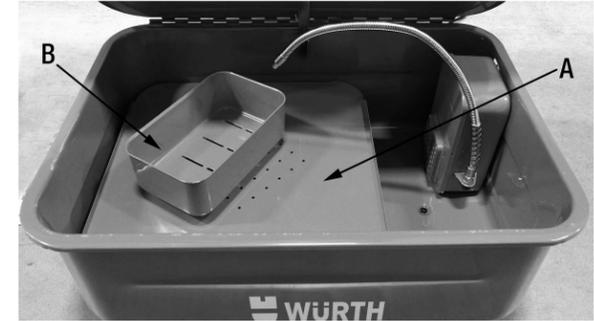

Figure 4
- Place work shelf (A) Fig.4 and basket (B) into the basin as shown.